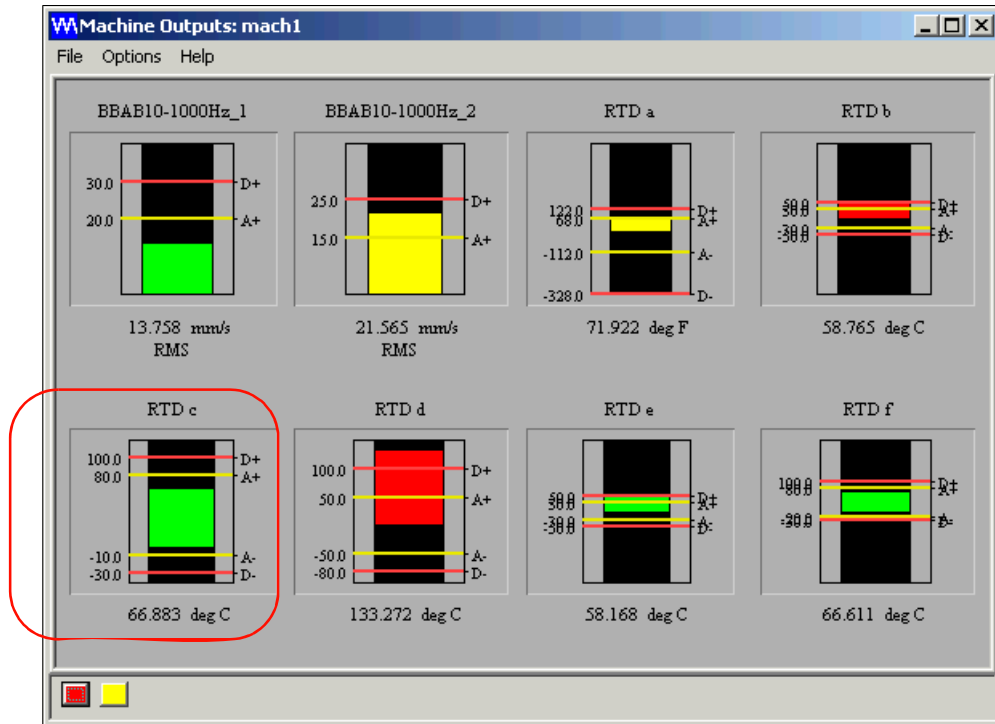

Figure 7-7: Bar chart “RTD c” after correction
- 4- Click the **Apply/OK** button. The rescaled bar chart can be seen in Figure 7-7. To cancel any changes you have made in the Bar Chart Options dialog, if you have not already clicked **OK**, click the **Reset** button.